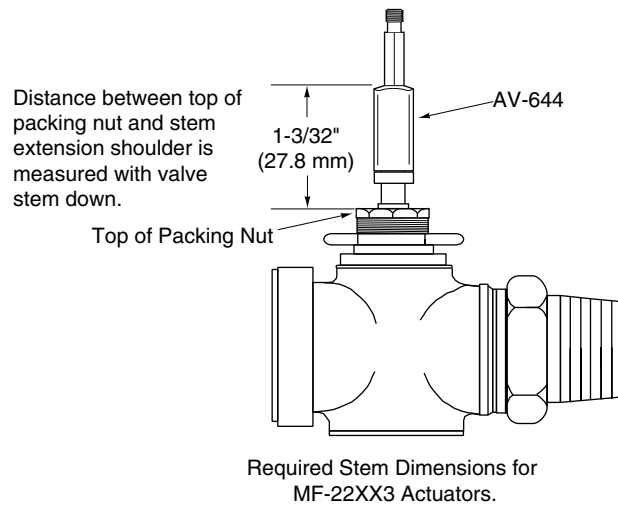

Figure-8 Valve and Stem Extension Assembly.
2. Remove the stem extension from the actuator. Screw the stem extension onto the valve stem. Adjust the stem extension of the selected actuator to the height specified for that in Figure-8. This dimension is the distance from the top of the packing nut to the shoulder of the stem extension.